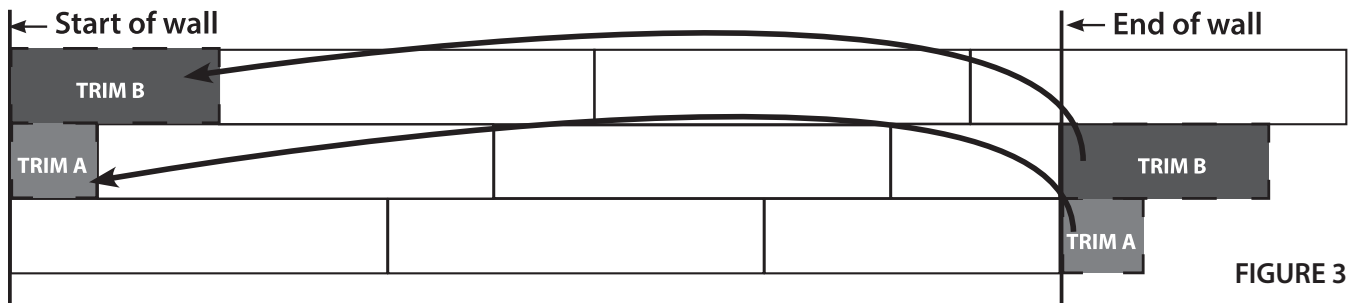

FIGURE 3
5. Trimmed pieces can be used to reduce scrap (**FIG 3**).